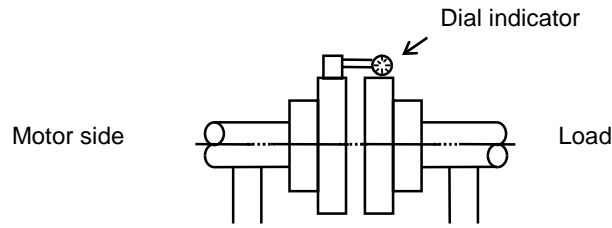

Figure 3 Aligning the Coupling References
- (1) A magnetic center gage is attached to the end of the bearing. Adjust the end play of the rotator observing the rotator reference line matching status so that it is as described in the drawing. "End play" refers to the maximum movable distance of the rotator in the shaft direction. The allowable errors for the end play other than the case where a special thrust bearing is provided or other value is requested by the directly connected unit are shown in **Table 1**. Adjust and fix the stator center position in the shaft direction measuring the relative position of the stator and the rotator iron core.
- (2) Attach a dial indicator to the motor side coupling (see **Figure 3**).
- (3) Using the coupling, gently turn the motor rotor and center the shafts to an accuracy of less than 0.025 mm (the value of rigid coupling).